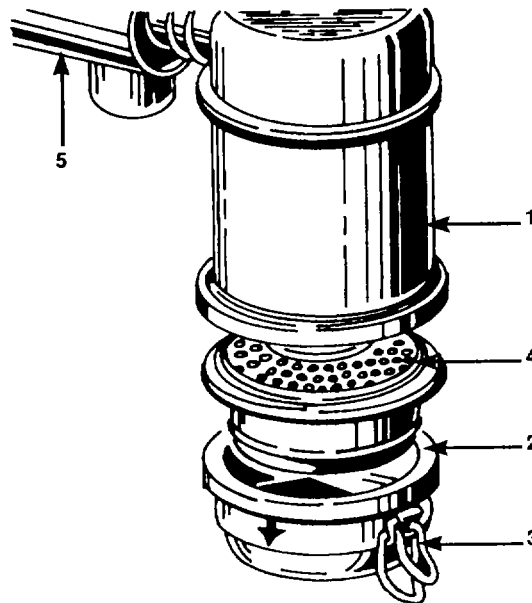

Figure 2-5. Oil Bath Air Cleaner
- d. Ensure that the air cleaner bowl (2, figure 2-5) has been filled (use same grade motor oil for engine).